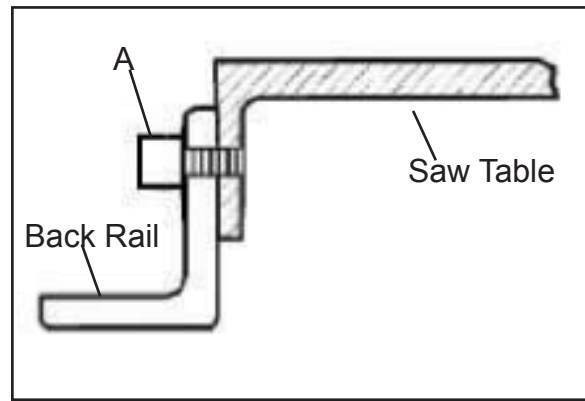

Figure 8
3. Secure the rear fence rail to the tapped holes in the saw table and table wings with five M8 hex head cap screws. Tighten screws securely with a 6MM L wrench. Figures 8&9.